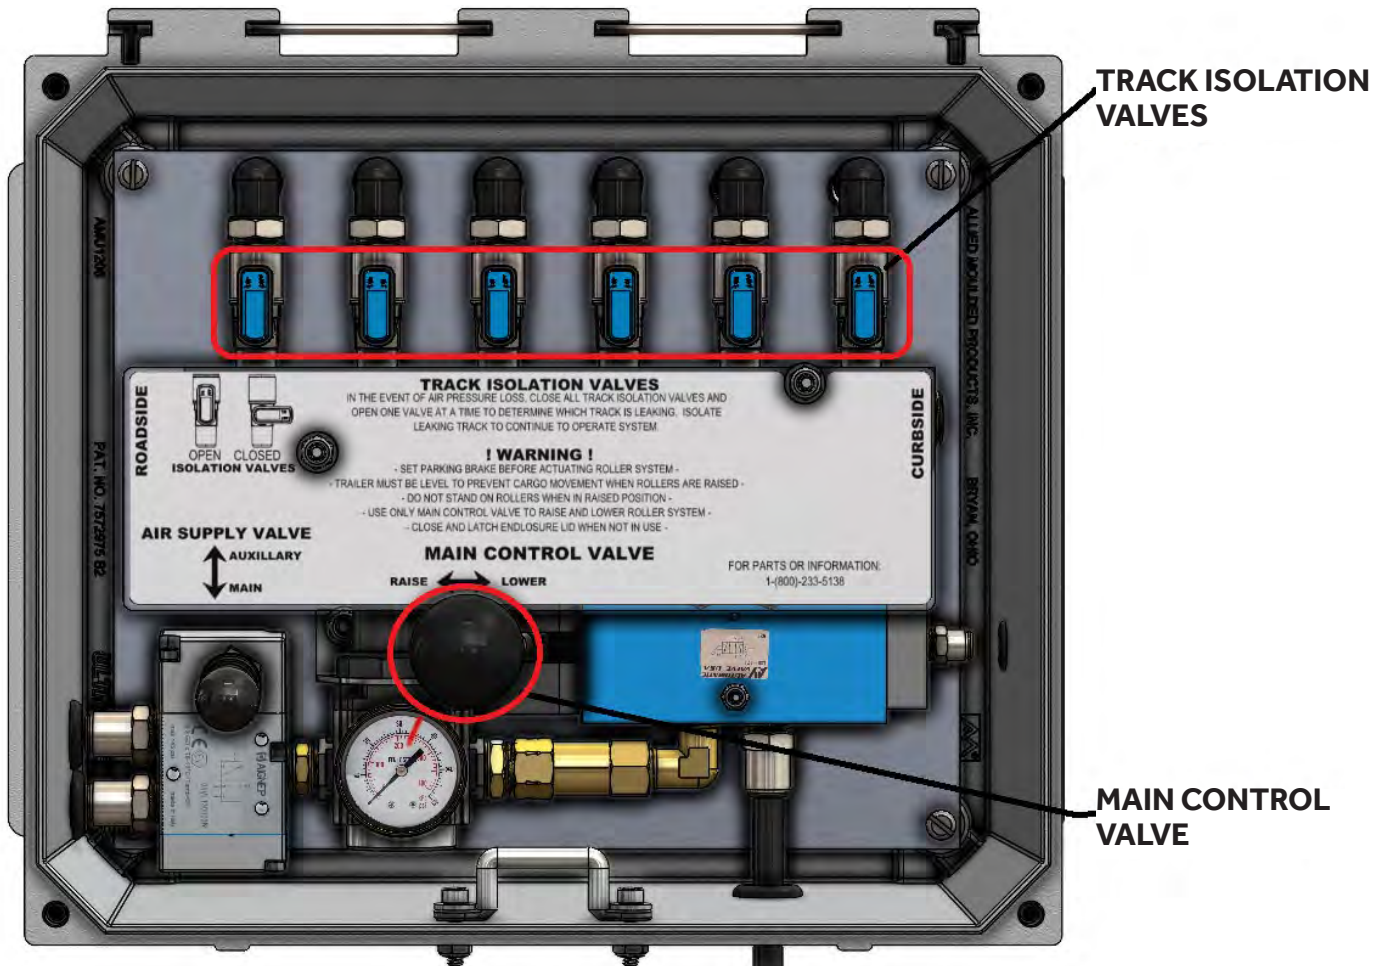

Figure 5-3A Control Valve detail
1. Make sure that the main control valve on the Control Panel is to the **RIGHT SIDE** or lowered (off) position. See Figure 5-3A.
2. Make sure that the track isolation valves are **OPEN** per Figure 5-3A.